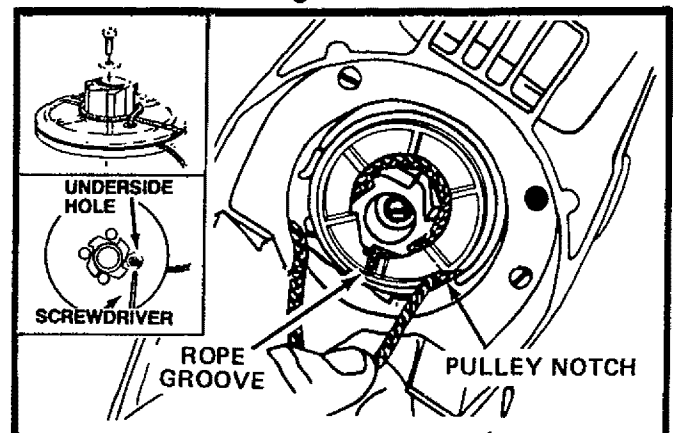

Figure 30
8. If the starter rope is not broken, release the spring tension by pulling about 12 inches of rope from the pulley and catch the rope in the notch as shown. Figure 30.
14. Wrap rope counterclockwise ← around pulley ratchet and tuck loose end back under rope leaving a 1/4 to 1/2 inch tail laying in the rope groove. Figure 30.
17. Hold the 12 inch slack in the rope and catch rope in pulley notch. Figure 30.